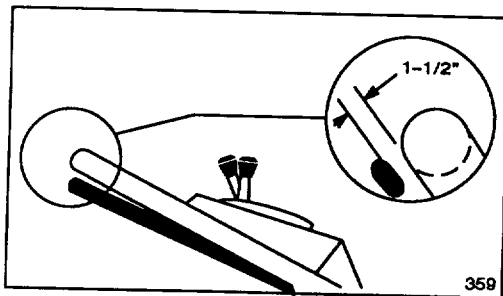

Figure 19
3. **CHECK ADJUSTMENT**—Adjustment is correct when control bar is about 1-1/2 inches from handle (Fig. 19).